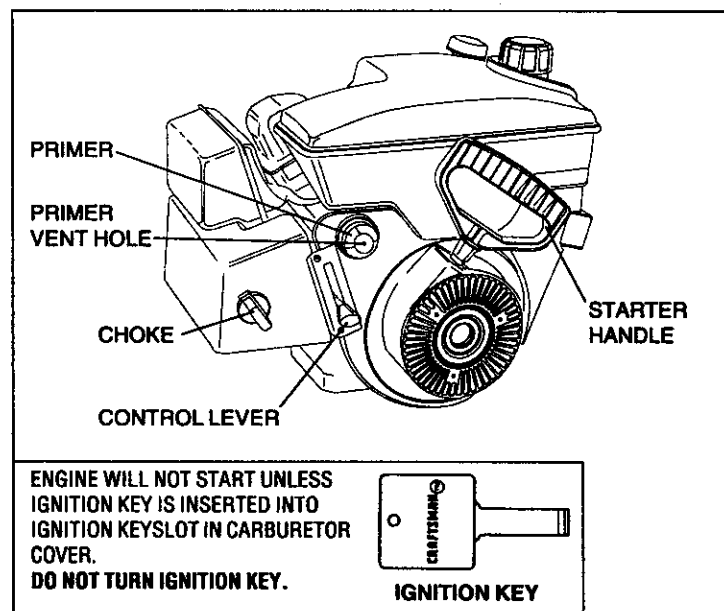

Figure 2
C. Insert ignition key into ignition keyslot in carburetor cover (see Figures 2 and 3).
A. Move engine CONTROL LEVER (see Figure 2) to "FAST".
B. Move engine CHOKE (see Figure 2) to "FULL".
C. Push PRIMER three (3) times (see Figure 2). Always cover vent hole when pushing primer.
D. Grasp STARTER HANDLE (see Figure 2), and pull rope out, slowly, until it pulls slightly harder. Let rope rewind slowly. Then pull rope with a rapid full arm stroke. Let rope rewind SLOWLY. Do not let STARTER HANDLE snap back against starter.
- B. Remove ignition key (see Figure 2 or 3) from carburetor cover.